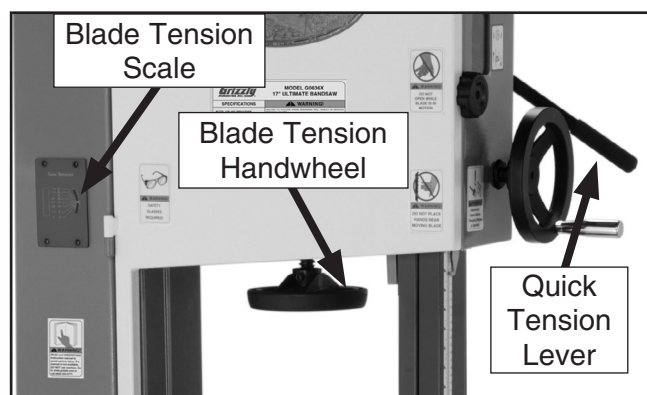

Figure 12. Blade tensioning controls.
3. Move the quick tension lever to the tightened position and turn the blade tension handwheel until the blade tension matches the mark on the blade tension scale for the appropriate blade thickness (**Figure 12**).
3. Move the quick tension lever to the tightened position and turn the blade tension handwheel until the blade tension matches the mark on the blade tension scale for the appropriate blade thickness (See **Figure 12, Page 16**).